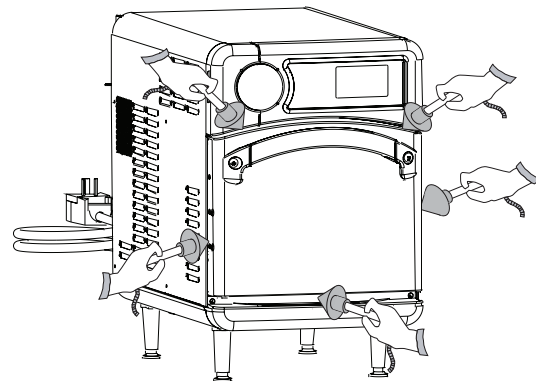

Figure 34: Survey Meter Placement
5. Measure microwave emission around the door as shown in Figure 34, moving the meter sensor at 0.5 inches/second.